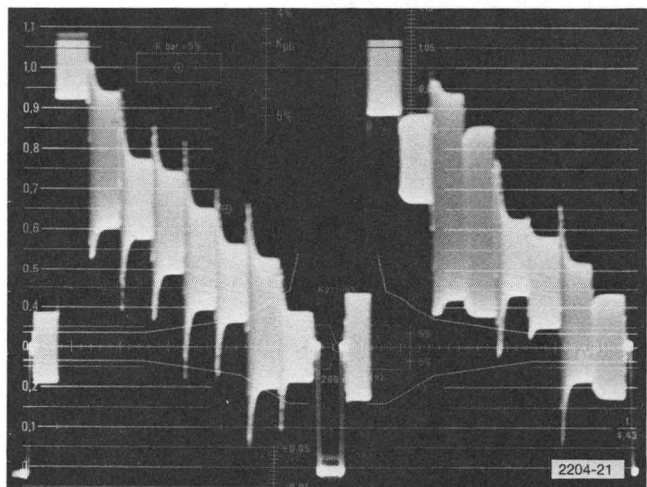

Fig. 1-21. Color Bar signal, 2 lines.
13. LINE BURST: Note from Fig. 1-21 that the start up of the subcarrier occurs directly following line sync time.